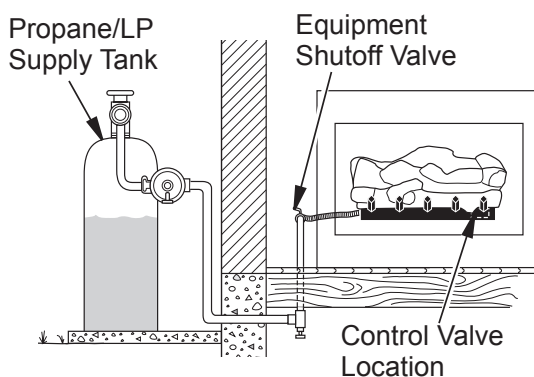
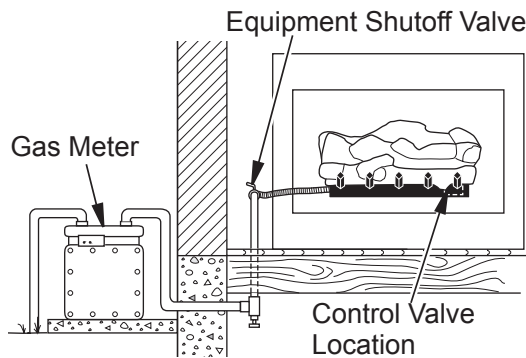

Figure 15 - Checking Gas Joints (Propane/LP Only)
Figure 16 - Checking Gas Joints (Natural Gas Only)
3. Check all joints from gas meter to equipment shutoff valve for natural gas or propane/LP supply to equipment shutoff valve for propane/LP (see Figure 15 or Figure 16, page 15). Apply noncorrosive leak detection fluid to all joints. Bubbles forming show a leak.
4. Check all joints from gas meter to equipment shutoff valve for natural gas or propane/LP supply to equipment shutoff valve for propane/LP (see Figure 15, page 14 or Figure 16). Apply noncorrosive leak detection fluid to all joints. Bubbles forming show a leak.